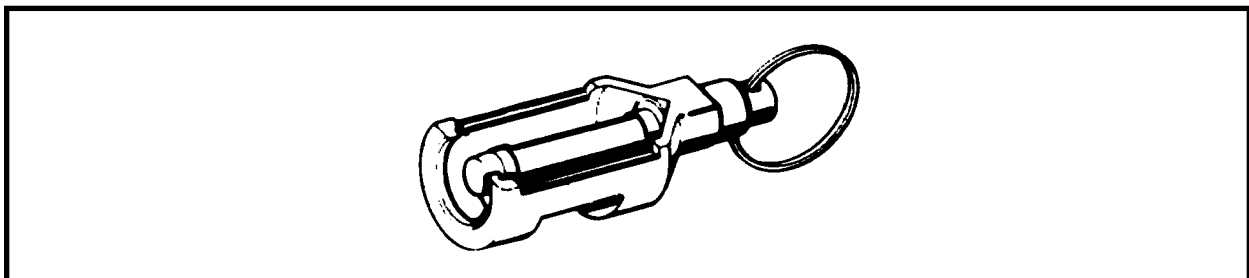

Figure 3-2-69 Blank Firing Attachment
90. The blank firing attachment shall be maintained in serviceable condition so that it may be securely fastened to the compensator. The blank firing attachment with the exception of the threads, shall be painted with yellow or red, heat resisting enamel for identification purposes. See Figure 3-2-69.